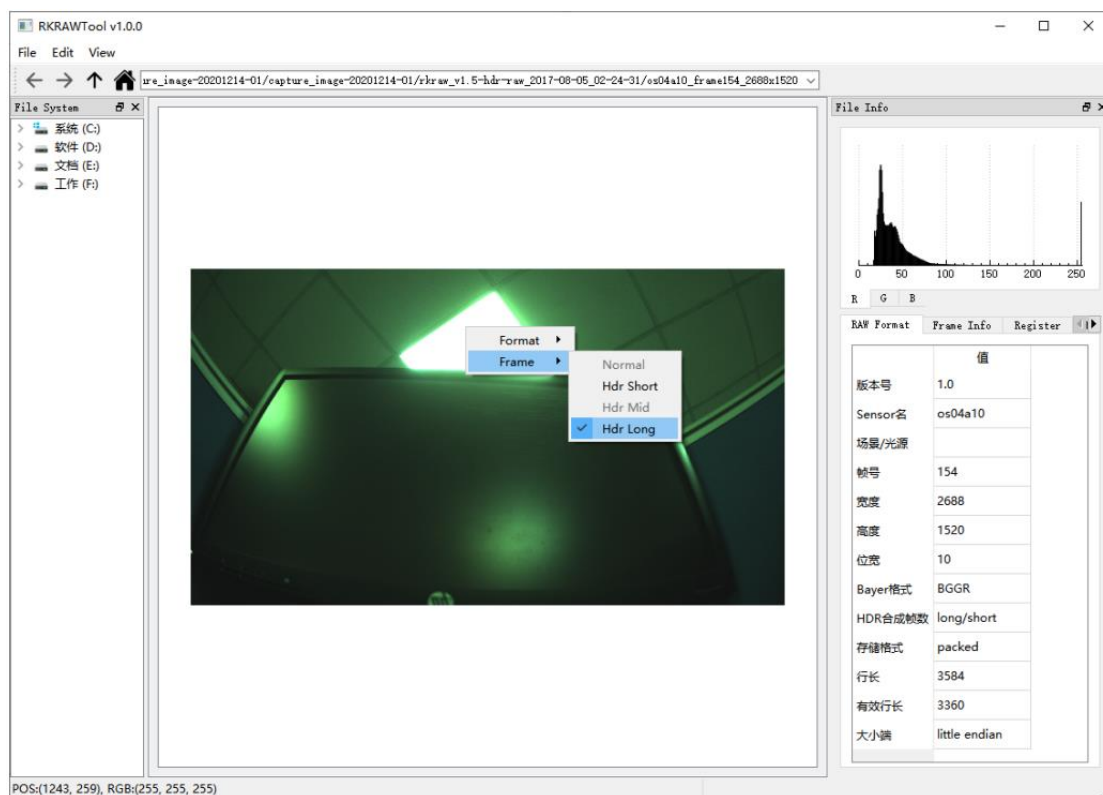

Figure 2-5-2
- Right-click the display area to switch between GRAY/RGB, Normal/Hdr Short/Mid/Long (only support the RKRawV2 format), as shown in Figure 2-5-2.